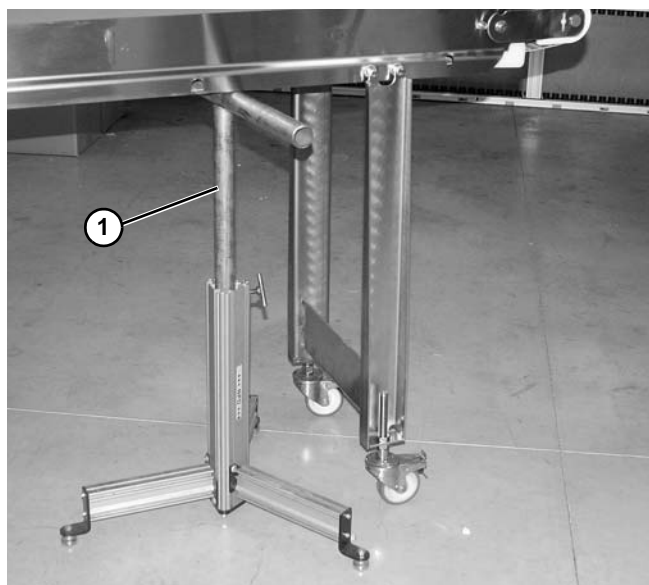
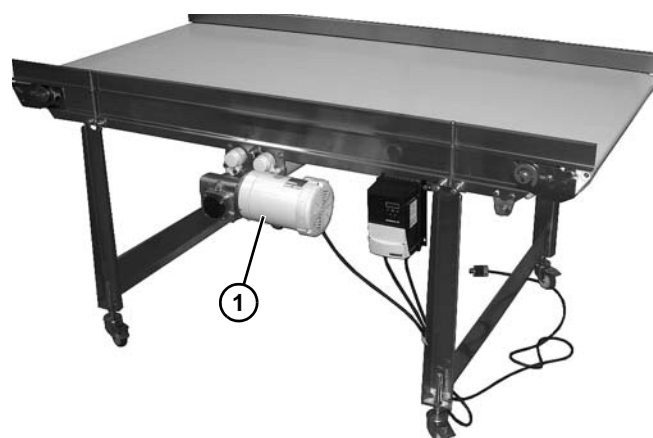

Figure 18
Figure 19
1. Place temporary support stands (Figure 18, item 1) at both ends of the conveyor. Place an additional support stand under the drive motor (Figure 19, item 1), if equipped. See WARNING.